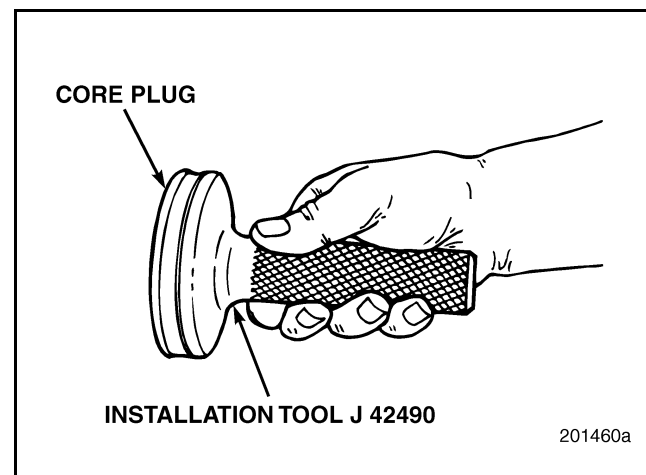

Figure 262 — Camshaft Core Plug Installation Tool
- Position the core plug onto the core plug installation tool J 42490 (used with J 8092 driver handle). Refer to Figure 262.